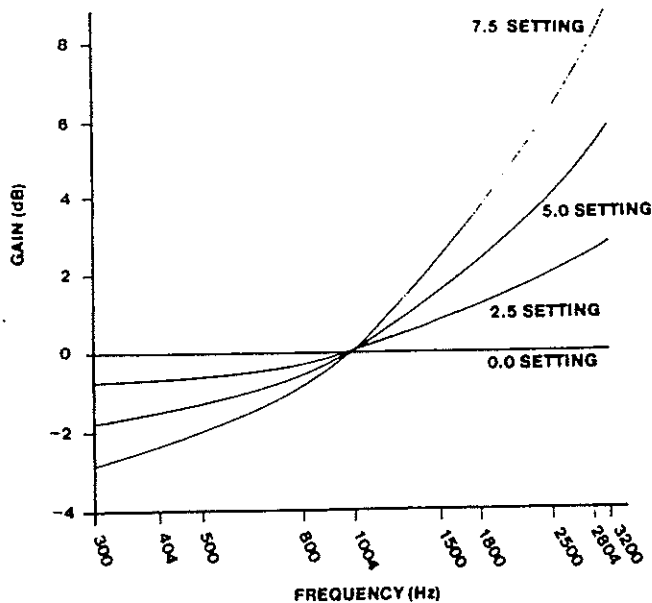

figure 5. Typical slope equalization response curves
2.08 Two modes of amplitude equalization are available on the 6123/A for post-equalization of the facility-side (4wire) receive pair. The first is prescription active slope equalization for nonloaded cable. When this mode is selected, from 0 to 7.5dB of gain at 2804Hz (re 1004Hz) can be introduced into the receive path in switch-selectable 0.5dB increments. Typical frequency response of the slope equalizer is shown in graphic form in figure 5 and in tabular form in table 1.
2.10 The response curves of both the slope equalizer and the bump equalizer "pivot" at 1004Hz, as shown in figures 5 and 6. Thus, neither equalizer has any effect on 1004Hz levels. As a result, equalization can be introduced into the receive channel of the 6123/A not only before but also after receive levels are set, with no interference between level and equalization adjustments.
equalization of a facility-side (4wire) transmit pair consisting of nonloaded cable. The transmit equalizer is essentially identical to the receive-channel slope equalizer, providing from 0 to 7.5dB of gain at 2804Hz (re 1004Hz) in switch-selectable 0.5dB increments. Typical achievable flatness and typical frequency response of the transmit equalizer are the same as those of the receive-channel slope equalizer (see paragraph 2.08, figure 5, and table 1). Like the receive equalizers, the transmit equalizer does not affect 1004Hz levels. Thus, transmit equalization can be introduced not only before but also after transmit levels are set.